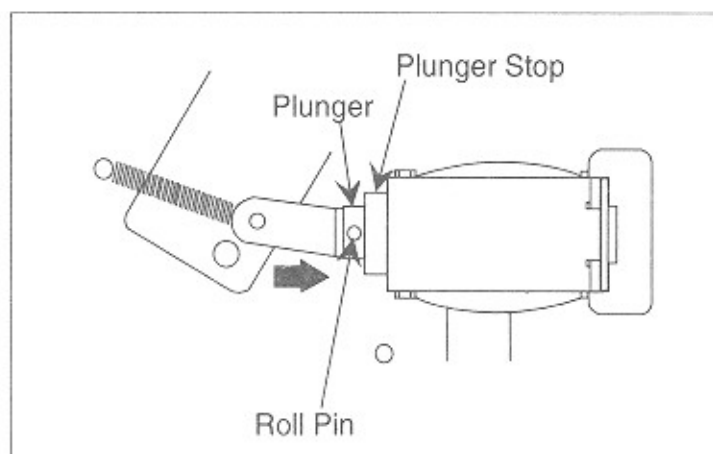

Figure 6-6. Sprag Assembly (Plunger)
1. Refer to *Figure 6-6*. Depress the solenoid plunger until the roll pin bottoms on the plunger stop (actuate by pressing on the plunger).